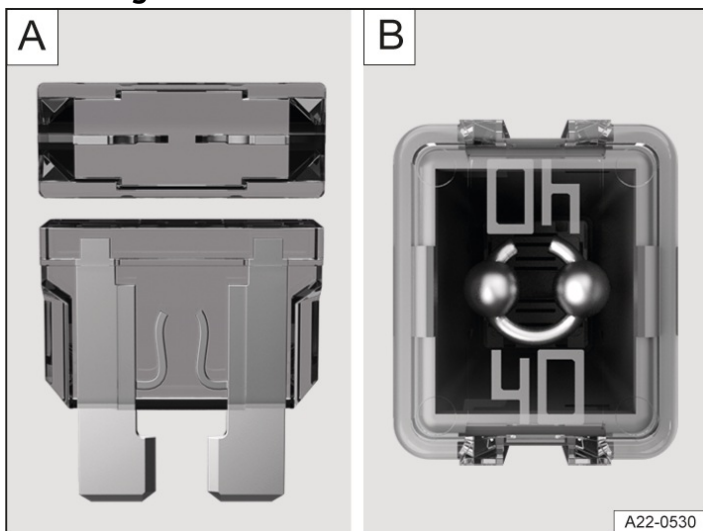

Fig. 1 Blown fuse (illustration).
- If a flat blade fuse (ATO®, MINI®) has blown, this can be recognised from the top and side through the transparent housing due to the melted metal strip → Fig. 1 A.
- If a cartridge fuse (JCASE®) has blown, this can be recognised from the top through the transparent housing due to the melted metal strip → Fig. 1 B.